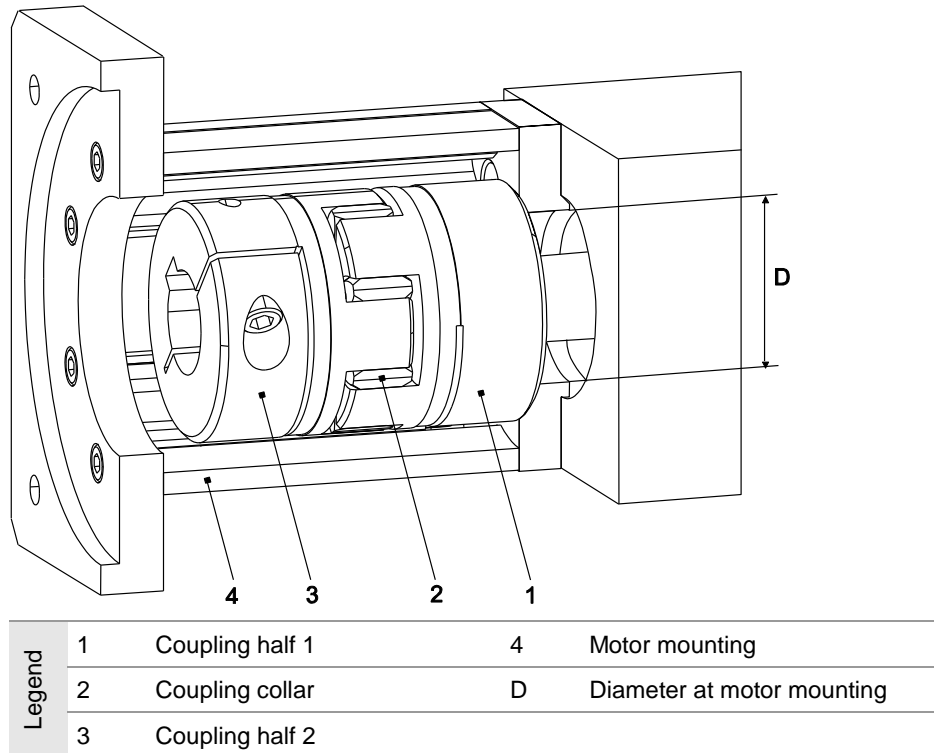

Figure 4 Motor mounting with motor coupling at drive journal
3. If the coupling diameter is smaller than the D measurement at the motor mounting (4), first mount the coupling half 1 (1) (bore flush with the drive shaft) and then the motor mounting (4) (Figure 4).